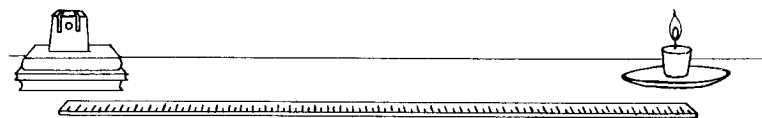

Figure 1.1-6. *Measuring the distance between the candle wick and the Light Sensor.*
16. Carefully measure the distance in inches between the Light Sensor and the wick of the candle. You may want to stretch a string between the Light Stand and the candle wick and then measure the length of the string. (Figure 1.1-6)